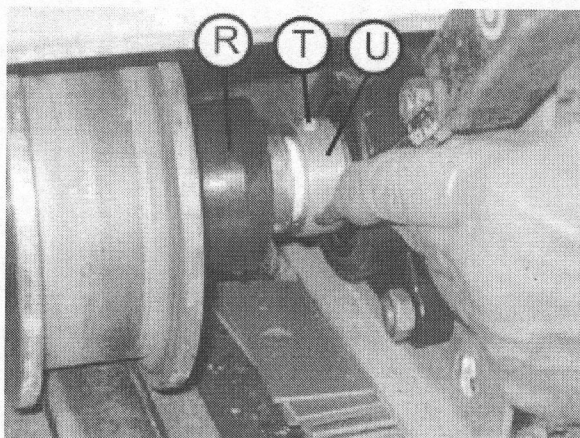

Fig. 017
12. Clamp clamping rings (R) and tighten safety screws (T) (Fig. 017)
13. Grease rubber lip of cover (R). Then, slide the cover onto the flange bearing. If the cover is not greased, when driving the portal, you will hear squeaking noises (Fig. 017).